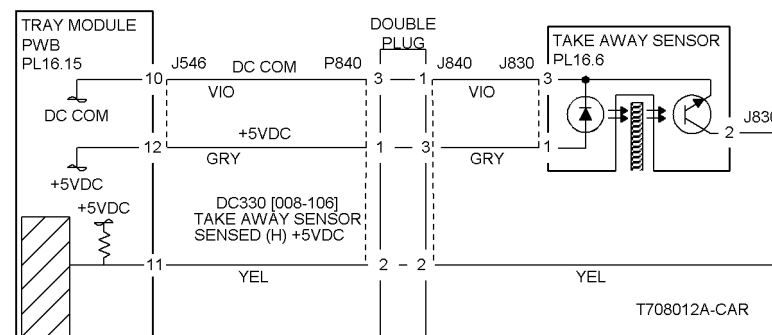
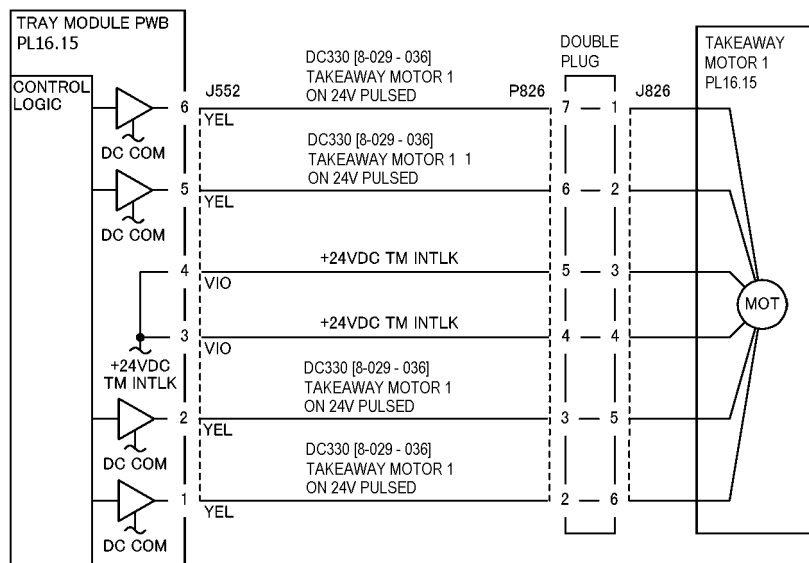
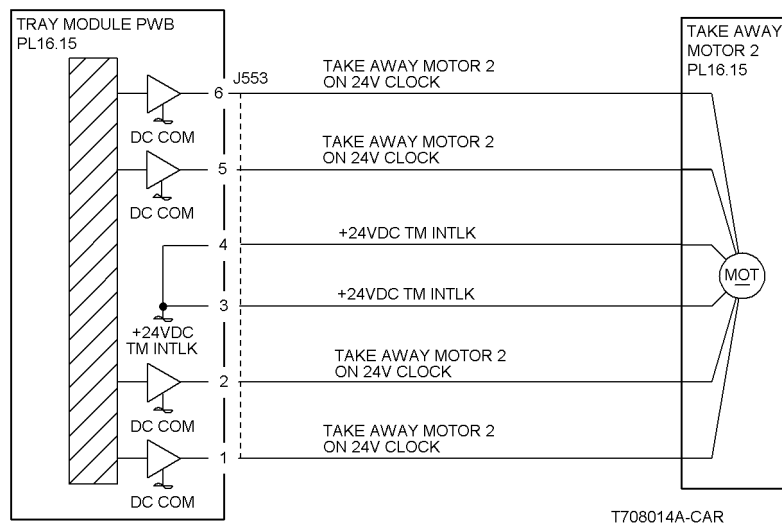

Figure 1 8-152 RAP Circuit Diagram - Takeaway Sensor
Figure 2 8-152 RAP Circuit Diagram - Takeaway Motor 1
Figure 3 8-152 RAP Circuit Diagram - Takeaway Motor 2
Refer to Figure 3. Check the wires from the Tray Module PWB to the Takeaway Motor 2 for an open circuit. If the wires are good, replace the Takeaway Motor 2 (PL 16.15).
- Ensure that the connectors shown in the circuit diagrams (Figure 1, Figure 2, Figure 3) are securely connected and that the wires are not damaged.